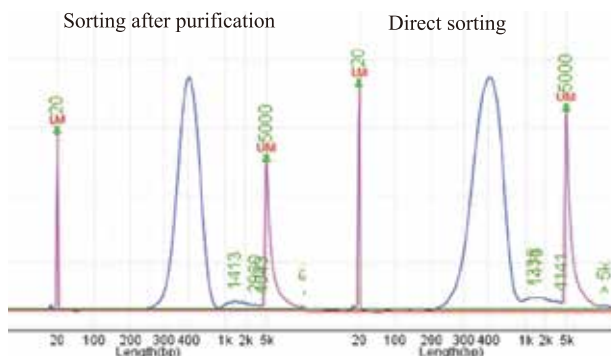

Figure 1 Library size distribution
It is recommended to use Qubit, etc. for concentration detection, and bioanalyzer (e.g. Agilent 2100, Qsep, etc.) for fragment size distribution detection. The main peak of a properly fragmented library should be between 350-470 bp, as shown in Figure 1. If there is a sharp peak around 135 bp (adapter-dimer contamination), the library product needs to be purified again with 0.8 $\times$ MagicPure® Size Selection DNA Beads (Cat. No. EC401). After the library is diluted to 50  $\mu$ l with RNase-free Water, the purification method referring to (2)-(10) in step 8, and assess peak shape.